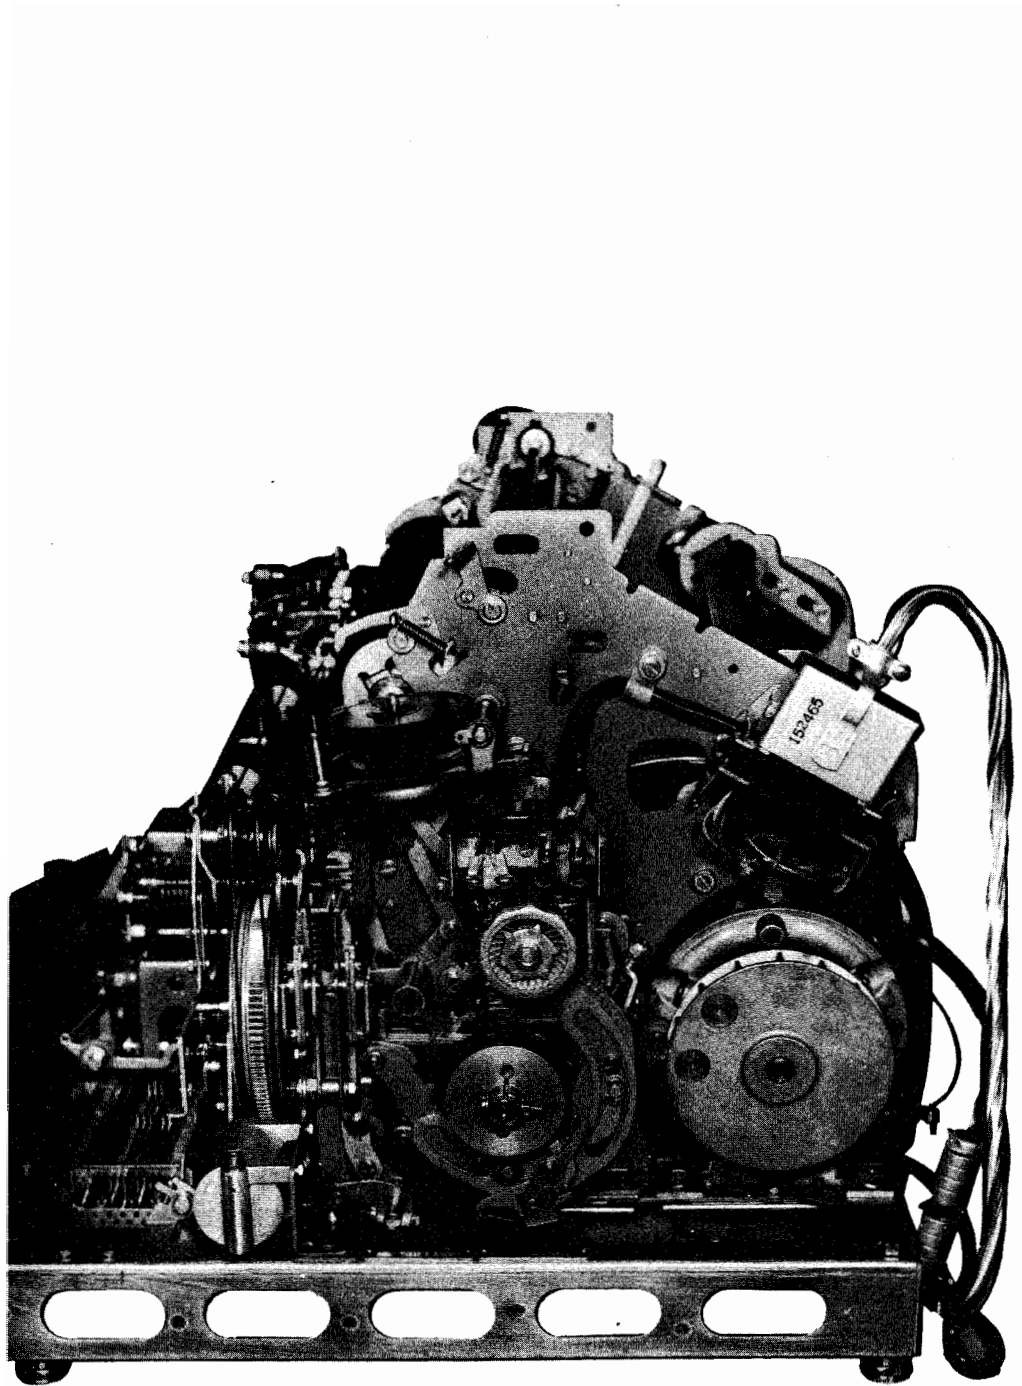

Figure 2.10 Side View of TT-176/UG after Modification
1. On the page printer selector magnet terminal board, connect the two outside terminals together using the three inch wire strap (item 54).
2. On the same board, connect the two inside terminals together, using the two inch wire strap (item 55).
6. Clamp the cable to the frame just behind the terminal board with the plastic cable clamp that held the original cable in place. See Figure 2.10.
10. Bolt the power distribution chassis to the base plate. Install ground strap (item 45) if required.